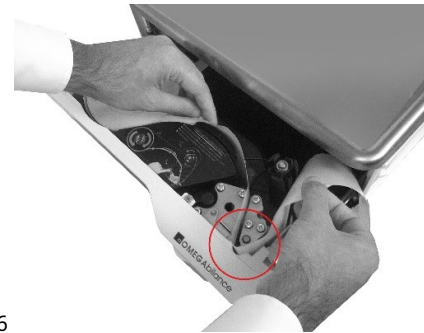
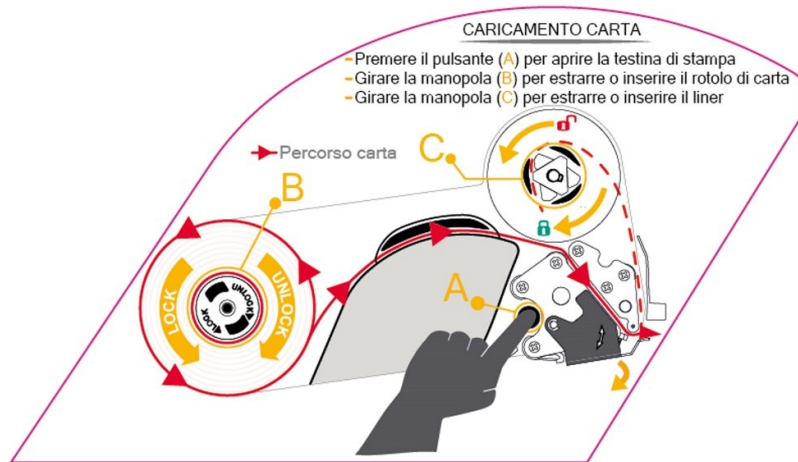

fig. 6
fig. 7
- Insert the roll, making sure that the siliconized support follows the path indicated in red in figure 7. The passage of the paper in the head is indicated in figure 6